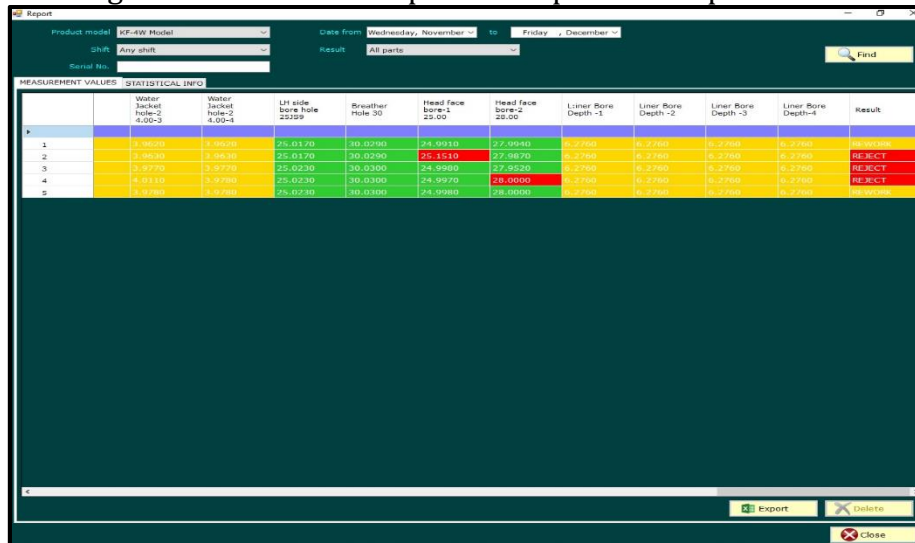

Figure 15
- Click on the 'Reports' button on the main page. After clicking, the following window is shown in figure 15. Can view the product report and export it.
- Find button:** To select the first product model, select the shift, select the serial number, select the month and week report to view, and select the result to see whether the part is accepted or rejected. After clicking on the 'Find' button, this report will be shown in figure 15.